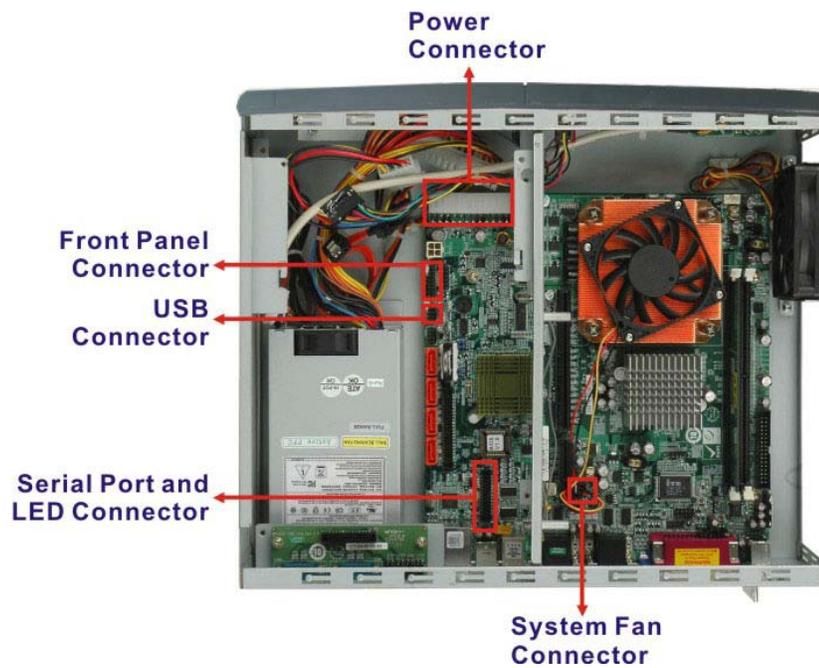

Figure 8-10: Motherboard Connectors
Step 9: Remove the following connector cables (See **Figure 8-10**):
Step 6: Reconnect the following cable connectors (See **Figure 8-10**):